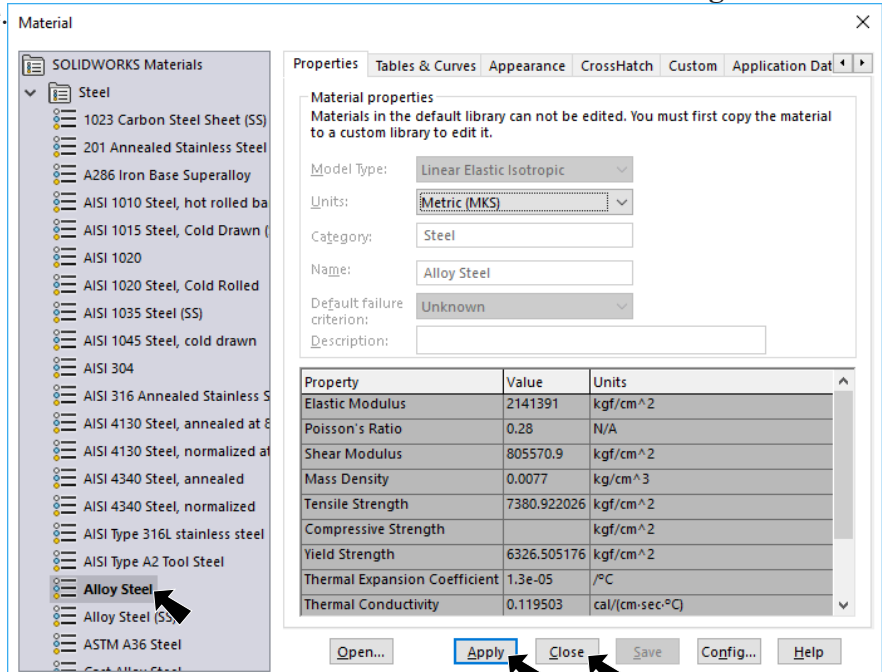

Fig. 9
Step 2. Expand **Steel** in the material tree and click **Alloy Steel**, **Fig. 9**.